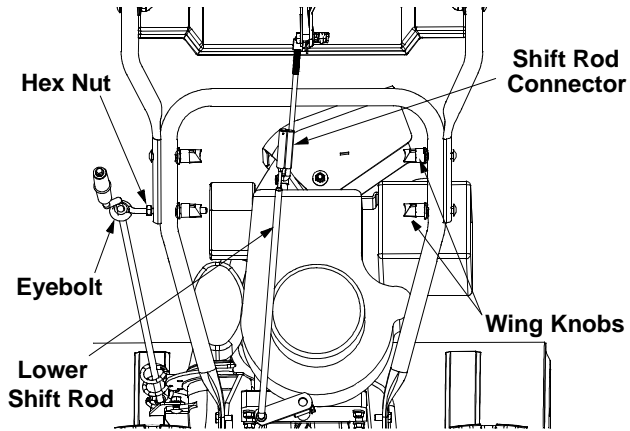

Figure 3
- Raise the upper handle assembly until it locks over the lower handle. See Figure 3.
- **Model 724 STE:** Secure the upper handle and lower handle with the two plastic wing knobs, cupped washers and carriage bolt (eyebolt on left side) previously removed. See Figure 3.
- Slide the shift rod connector down over the end of the lower shift rod. See Figure 3. Tap the connector until it **locks** over the lower shift rod.